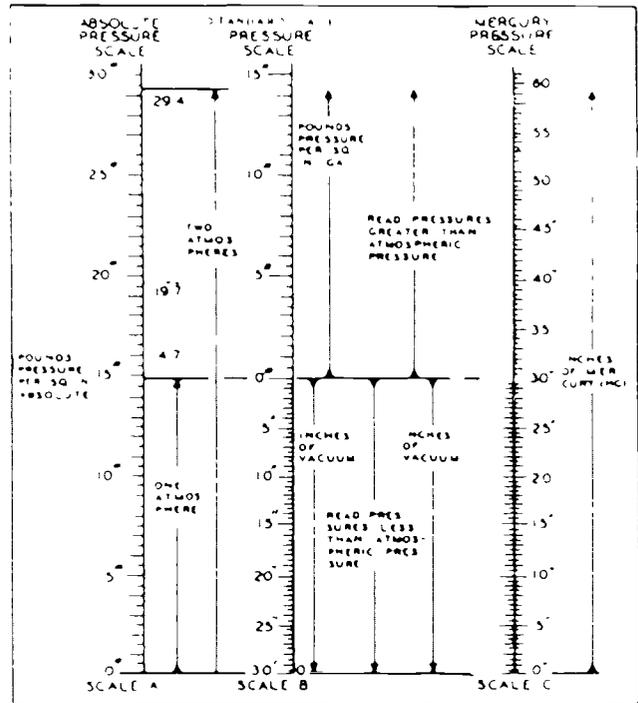

Figure 3. Pressure Scales
Pressure is force per unit area. A pressure of 30 p.s.i. means that there is a force of 30 pounds being exerted on each square inch of surface area. The air above us has weight, therefore, at sea level air exerts a force of 14.7 pounds on each square inch of the earth's surface. When climbing a mountain, the force of the air decreases because the column of air is shorter than it is at sea level. (See figure 3 )
**Absolute Scale.** The absolute scale is based on the total pressure exerted by the atmosphere at sea level. Therefore, an absolute scale will indicate a press of 14.7 p.s.i.a. at sea level. A perfect vacuum would be indicated as 0 p.s.i.a. (See figure 3.)